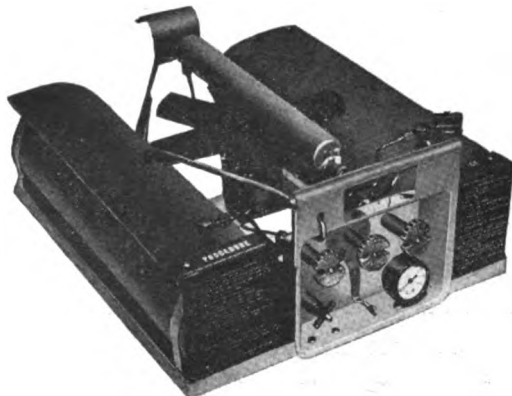

Figure 48. Set, conversion, No. 2 (simplified) (65-J-2377), installed.
a. GENERAL DESCRIPTION. (1) A conversion set (set, conversion, for unit, fire, range, field, M1937, set No. 2 (simplified)) is now being issued to replace the original filter, and filter assembly and generator on the M1937 fire unit (see fig. 48). The new combination generator-filter is a steel tube filled with steel wool and sealed. A set consists of three conversion generator-filters, one for current operation and two spares, together with the necessary fittings.
approximately as shown in figure 48. The nut on the end of the tube should be in line with the front generator tube when the generator is in place.